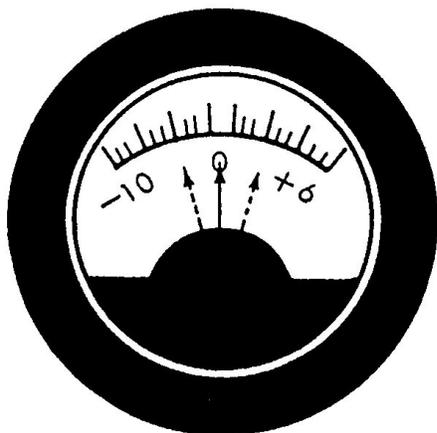

Figure 7-21.—Volume indicator meter.
**VOLUME INDICATOR METER.**— A volume indicator meter (fig. 7-21) is mounted on the front of the microphone control station. This meter indicates that the system is ready for use. This meter also indicates the amount of output volume when a transmission is made. This meter is calibrated in decibels from -10 dB through 0 dB to +6 dB. When the press-to-talk switch on the microphone is depressed, the meter needle should deflect. When an announcement is being transmitted, the meter needle should deflect to 0 dB on peaks for normal volume.